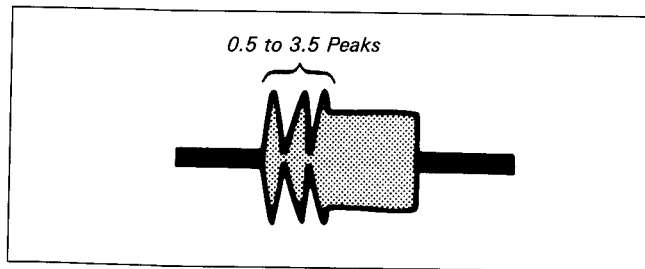

Fig. 7-67.
- 2) Confirm that RF waveform on the entrance side has 0.5 to 3.5 peaks in this condition. If not, adjust as follows. (See Fig. 7-67.)